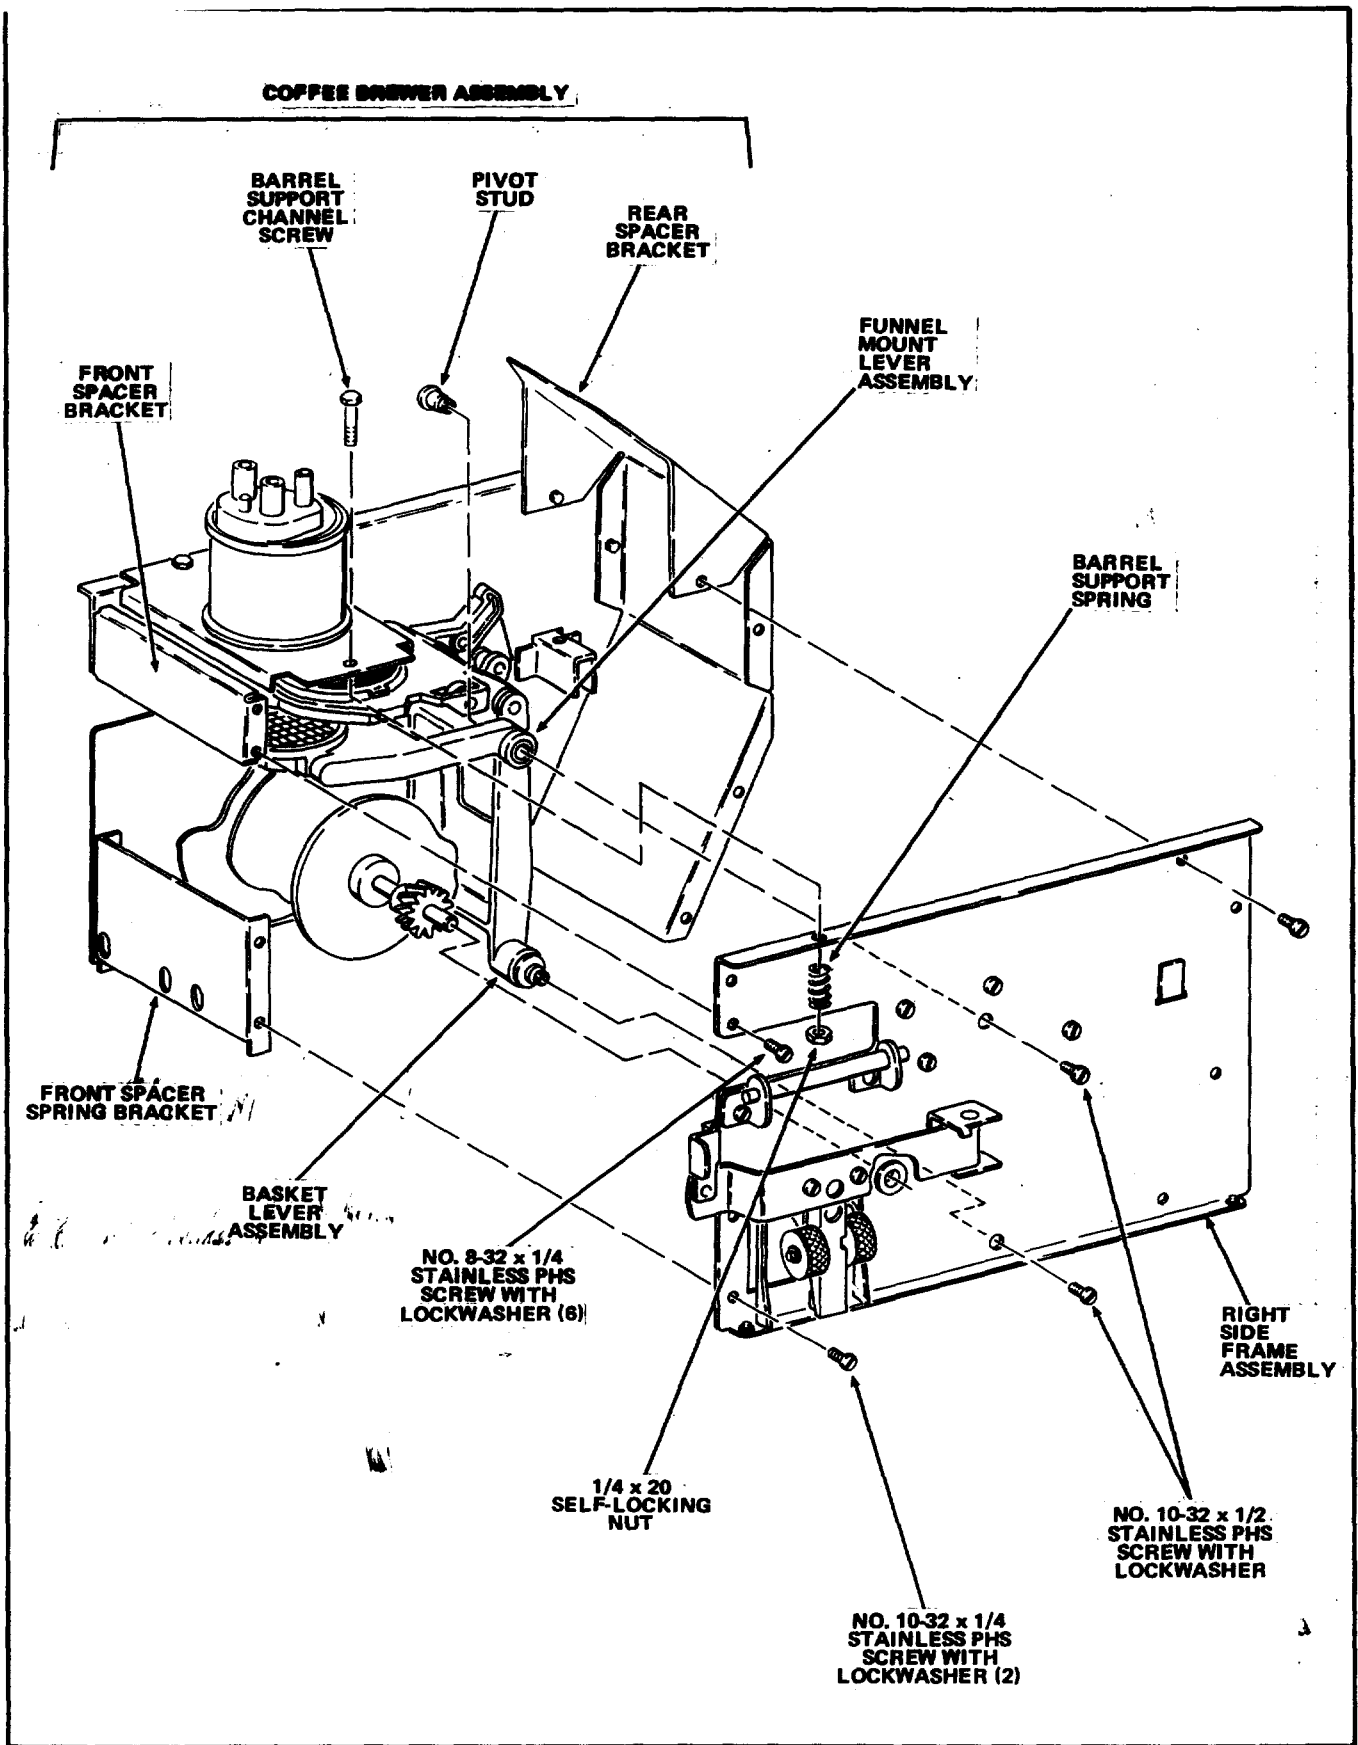

FIGURE 7
14. Place the replacement Right Side Frame Assembly on the Coffee Brewer Assembly by fitting the Frame Bushing in the Right Side Frame Assembly over the Brewer Mechanism Cam Shaft. Make sure the Basket Lever Assembly is between the two Basket Lever Travel Stops. See Figure 7.
15. Fit the Pivot Stud through the hole in the Funnel Mount Lever Assembly and attach to the Right Side Frame Assembly with a No.10-32 x 1/2 Stainless Pan Head Screw with Lockwasher. See Figure 7.
16. Attach the bottom of the Basket Lever Assembly to the Right Side Frame Assembly with a No.10-32 x 1/2 Stainless Pan Head Screw with Lockwasher. See Figure 7.
17. Attach the Right Side Frame Assembly to the Front Spacer Spring Bracket with two No.10-32 x 1/4 Stainless Pan Head Screws with Lockwashers. See Figure 7.
18. Attach the Right Side Frame Assembly to the Front Spacer Bracket with two No.10-32 by 1/4 Stainless Pan Head Screws with Lockwashers. See Figure 7.
19. Attach the Right Side Frame Assembly to the Rear Spacer Bracket with four No.10-32 x 1/4 Stainless Pan Head Screws with Lockwashers. See Figure 7.
20. Attach the Right Side Frame Assembly to the Barrel Support Channel with a Barrel Support Channel Screw, Barrel Support Spring, and a 1/4 x 20 Self Locking Nut. Be sure the Barrel Support Channel Screw extends 1/16 of an inch beyond the Self Locking Nut. See Figure 7.